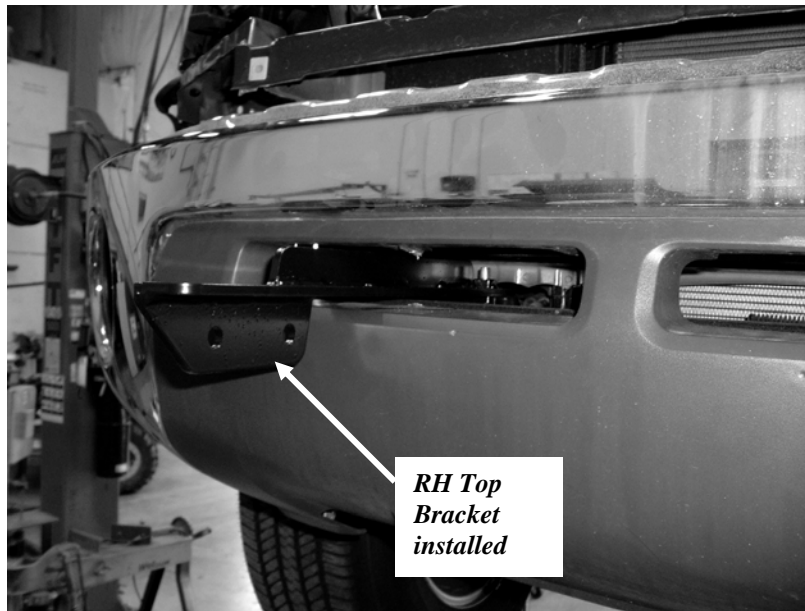

Figure 17 RH Top Bracket installed
21. Slide the Top Brackets through the outboard bumper slots and above the Frame Brackets. Align the holes with those in top flange of the Frame Brackets. Install 7/16" x 1 1/4 bolts with lock washers into the inner and middle holes. Access is from below the bumper with a long extension. A universal may also be helpful. Install a 7/16 x 1 1/2 bolt and lock washer in the outboard holes. Tighten the hardware. **Figure 17**